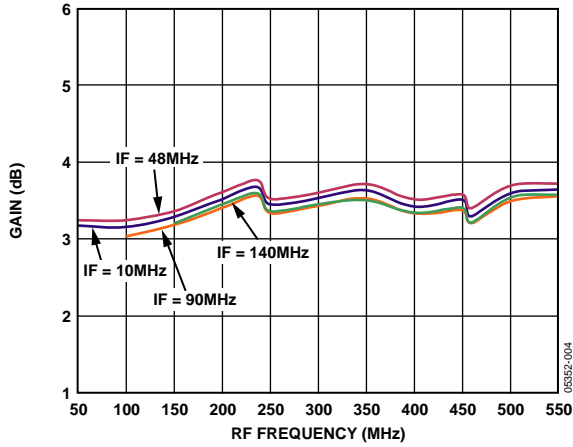

Figure 3. Conversion Gain vs. RF Frequency
The AD8342 is designed to downconvert radio frequencies (RF) to lower intermediate frequencies (IF) using a high or low-side local oscillator (LO). The LO is injected into the mixer core at a frequency higher or lower than the desired input RF. The difference between the LO and the RF, $f_{LO} - f_{RF}$, (high side) or $f_{RF} - f_{LO}$ (low side) is the intermediate frequency, f_{IF} . In addition to the desired RF signal, an RF image is downconverted to the desired IF frequency. The image frequency is at $f_{LO} + f_{IF}$ when driven with a high side LO. When using a broadband load, the conversion gain of the AD8342 is nearly constant over the specified RF input band (see Figure 3).